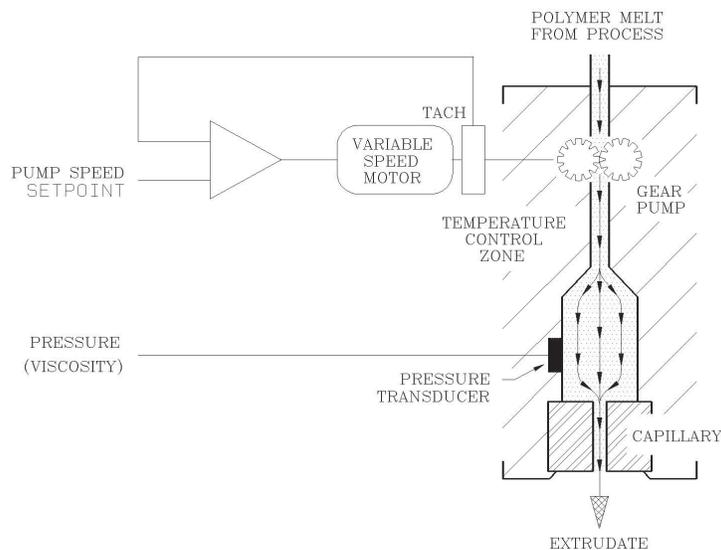

Figure 3 Viscosity Mode
In the VISCOSITY mode of operation, constant gear pump speed (SR) is set by controlling the gear pump RPM. The capillary L/D and pump volume can also be changed to set the SR to the necessary range. The pressure is measured above the capillary and used to calculate the SS. The VISCOSITY is calculated from the SS and the SR (Figure 3).